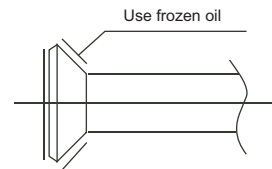

Fig.8-1
- ① Bend the tubing in proper way. Don't harm them.
- ② Daub the surfaces of the flare pipe and the joint nuts with frozen oil, and wrench it for 3~4 rounds with hands before fasten the flare nuts. (Refer to Fig.8-1)
- ③ Be sure to use two wrenches simultaneously when you connect or disconnect the pipes.